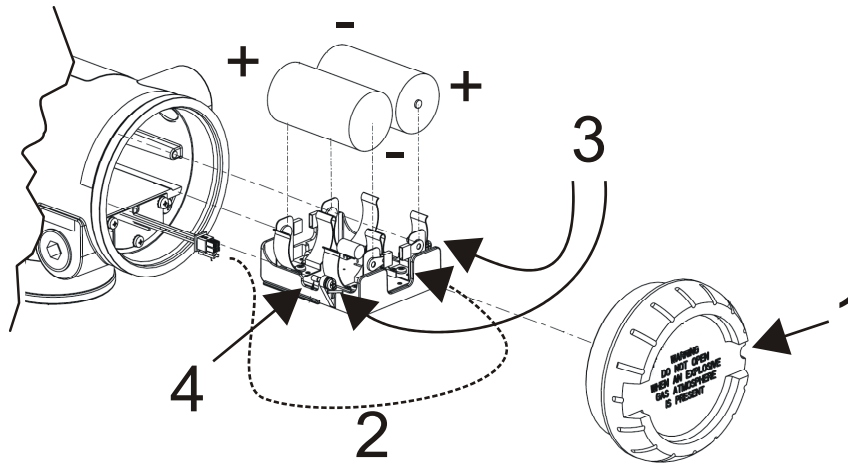

Figure 8 Battery replacement
1	Loosen the M3 locking set screw on the battery end-cap (opposite end from display). See item 1 in Figure 8. Unscrew and remove the end cap.
2	Using thumb and forefinger, squeeze the battery connector at top and bottom to disengage the locking mechanism, then pull to disconnect. See item 2 in Figure 8.
3	Loosen the two battery holder retaining screws (closest to the batteries). See item 3 in Figure 8. The screws are captive.
5	Remove the old batteries from the battery holder. If needed, pry out the batteries by using a slotted screwdriver as a lever in the holder's side slots. See item 4 in Figure 8.